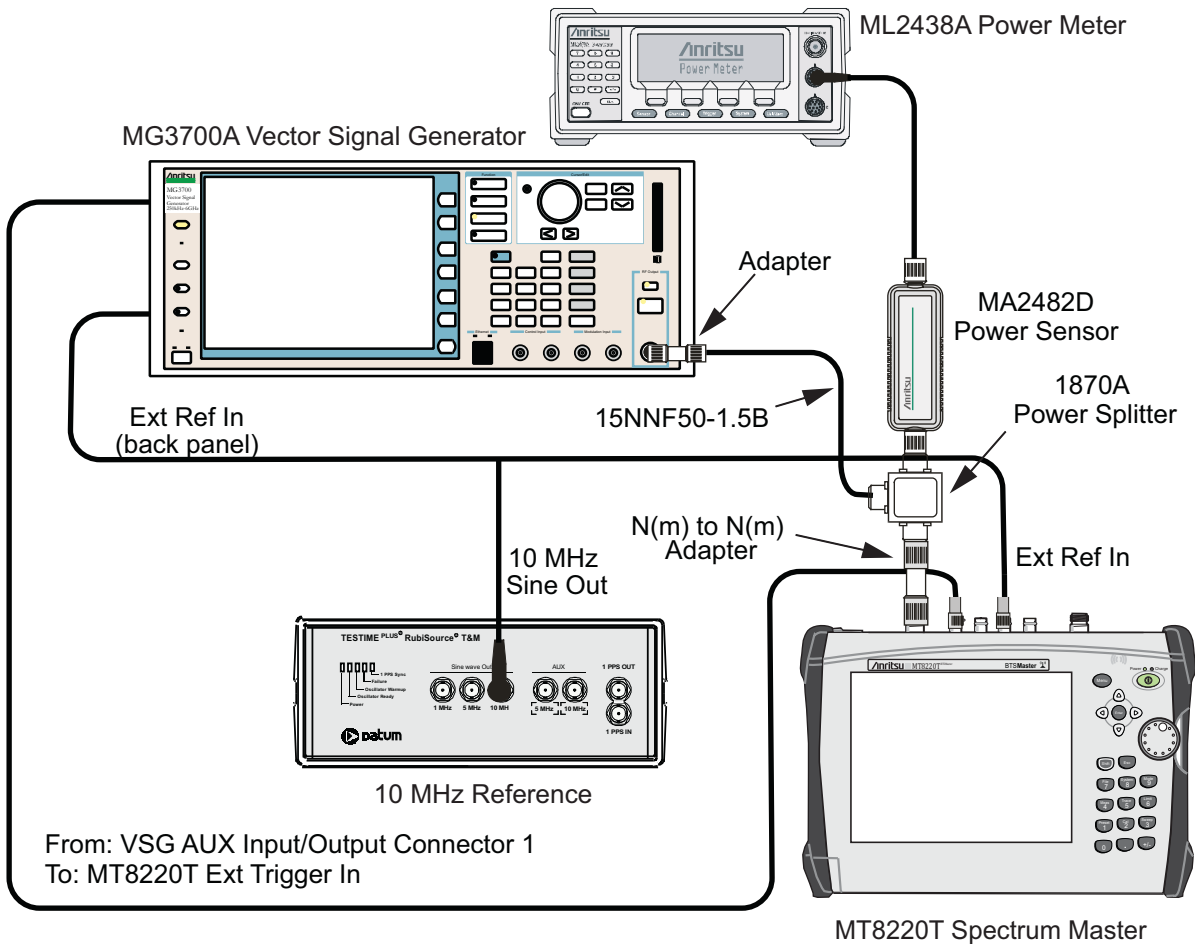

Figure 6-8. CDMA Signal Analyzer, Test Setup
3. Connect the equipment as shown in Figure 6-8.